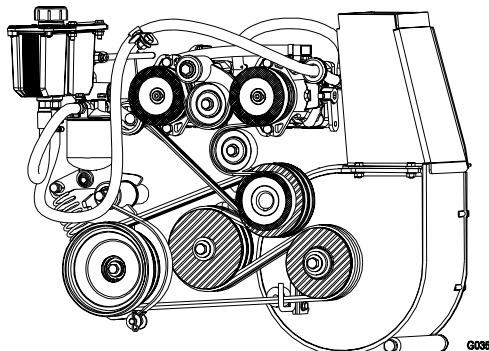

FIGURE 16
- i) Measuring from the blower pulley as a baseline, move the engine and jackshaft until the rear surface of all 3 pulleys are aligned within 1/32"-1/16" (0.8 - 1.6 mm). Use a straight edge to align all 3 surfaces. See Figure 16.
- c) Using a straight edge, align each pump pulley with the engine pulley by sliding along the pump shaft. See Figure 16.